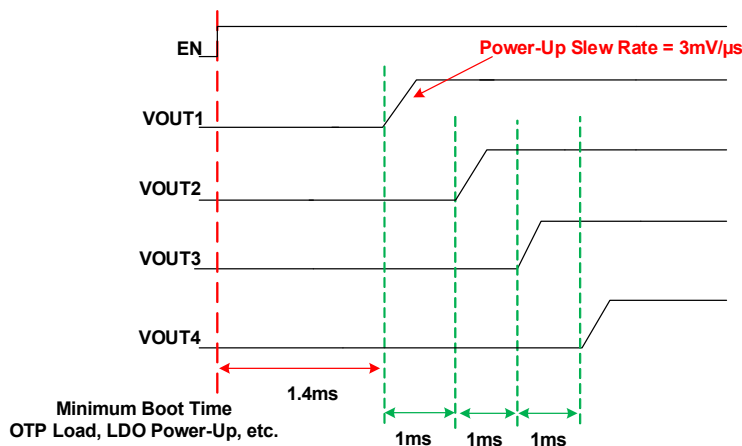

Figure 38. Master Chip Enable Power-Up Example
Figure 38 provides an example of power-up configurability. The master chip enable pin (EN) transitions from 0 to 1, and OTP is loaded over 1.4ms. After the initial 1.4ms boot interval, the buck output start-up sequence begins. In the Figure 38 example, BUCK1_EN_DLY is set for 0ms, BUCK2_EN_DLY is set for 1ms, BUCK3_EN_DLY is set for 2ms, and BUCK4_EN_DLY is set for 3ms.